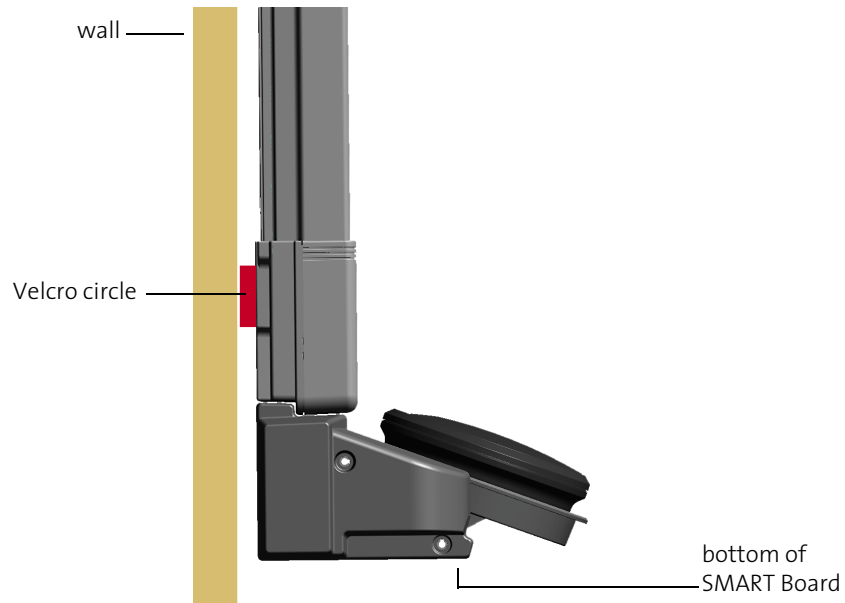

Figure 1-12 Securing SMART Board to the wall
4. Pull the bottom edge of the SMART Board slightly away from the wall and remove the adhesive protective backing from the two Velcro circles located at the bottom corners (Figure 1-12). Then press the SMART Board firmly against the wall.